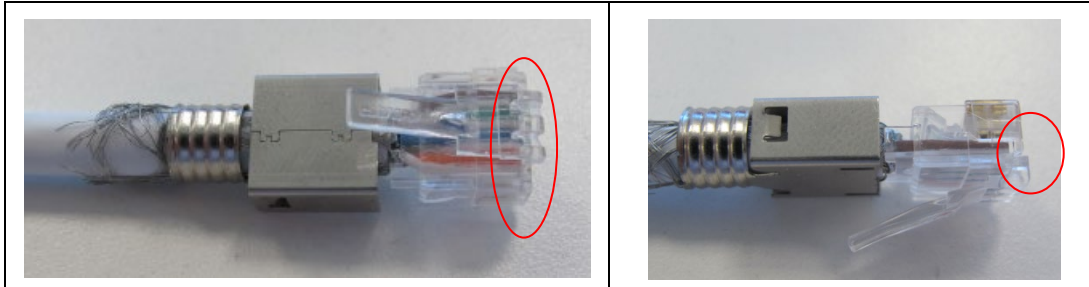

Figure 8. Verify Conductors are Fully Inserted
7. Visually verify that all conductors are fully inserted into the housing with the ends of the conductors seated against the end of the housing cavity. If not, push the cable further into the wire holder and check if the wire holder has latched into both sides of the plug housing. See Figure 8.